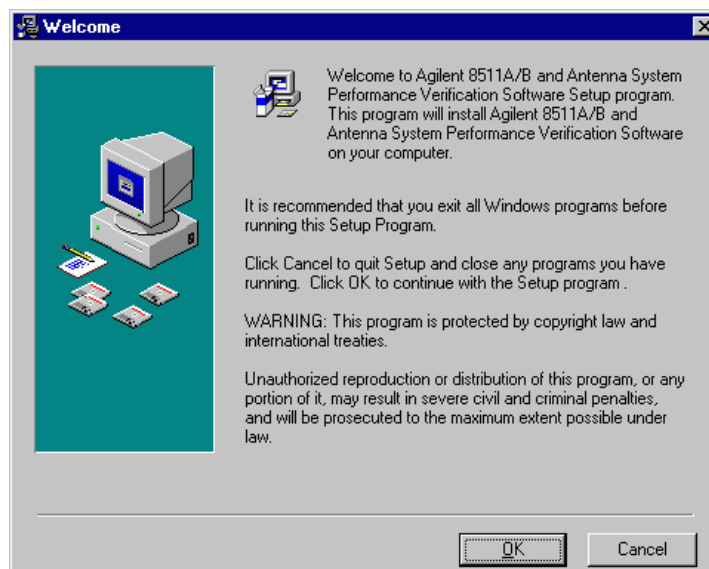

Figure 2 *Welcome Message Window*
6. The **Welcome** window is displayed. Read the welcome message then click **OK**. See Figure 2.